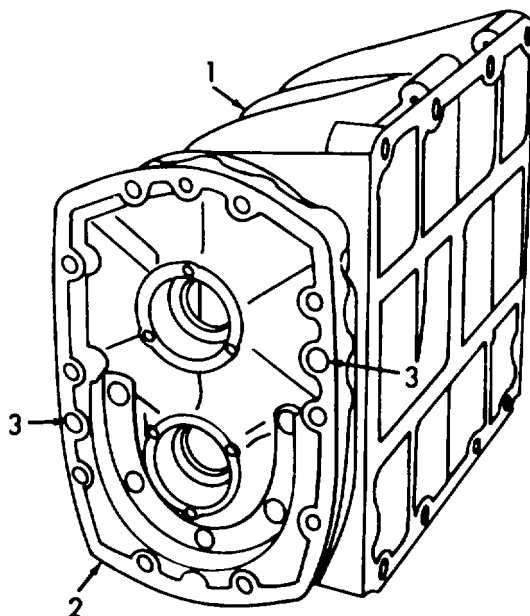

Figure 3-35. Front End Plate, Installation.
- (5) Refer to figure 3-35 and apply sealing compound (item 22, Appendix C) to front of housing (1).
- (6) Install blower front end plate (2) using a soft mallet to drive the plate over the dowel pins.
- (7) Install two screws (3) to secure end plate (2) to housing (3). Torque screws to 5-10 lb-ft (7-14 Nm).